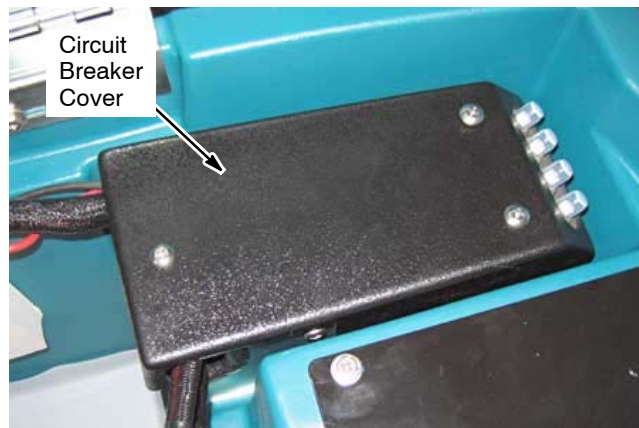

Fig. 3
1. Remove the cover the from the circuit breaker box (Figure 3).